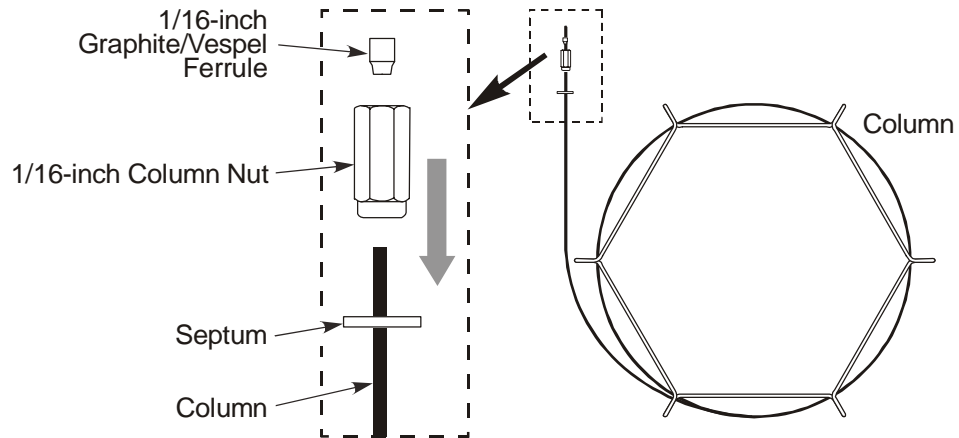

Figure 13 Inserting the nut and ferrule on the column
2. Insert a septum, 1/16-inch column nut (part number 09903392), and 1/16-inch graphite ferrule (0.8-mm i.d. Part Number 0992-0141, or 0.5-mm i.d. Part Number 0990-3700) over one end of the column as shown in Figure 13 .